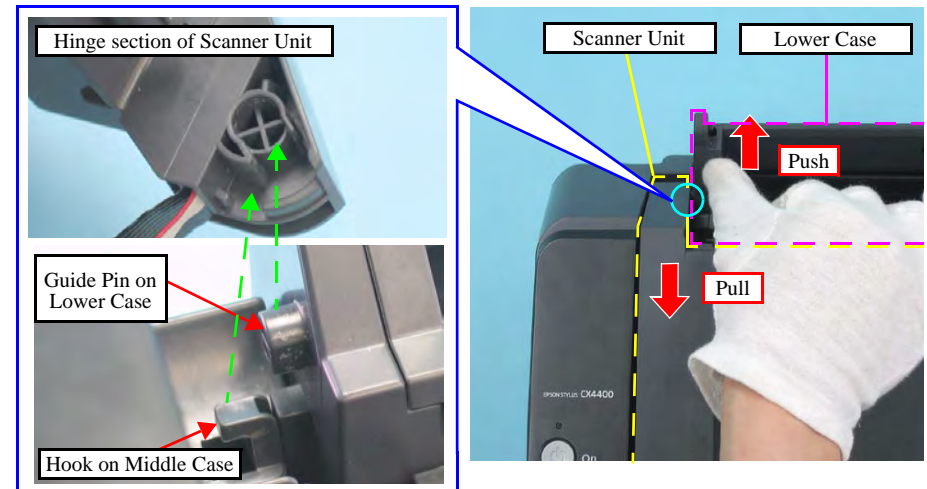
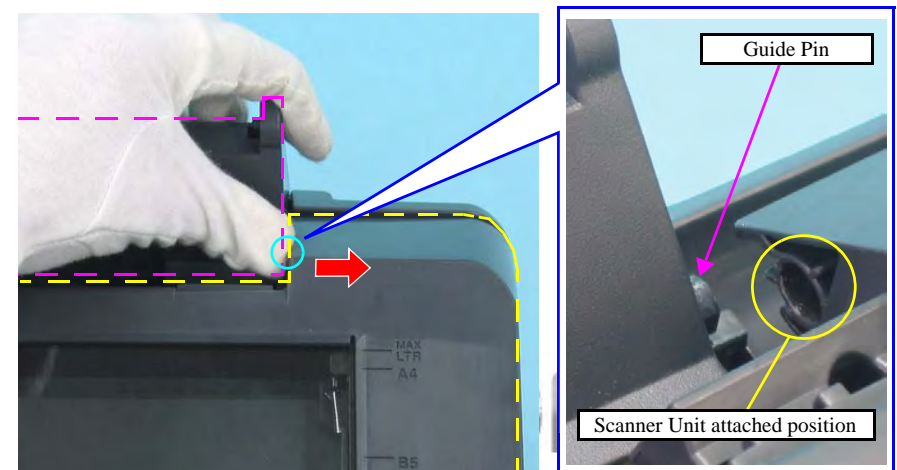

Figure 4-11. Removing Scanner Unit /Middle Case /Panel Unit (1)
Figure 4-12. Removing Scanner Unit /Middle Case /Panel Unit (2)
5. Engage the right hinge of the Scanner Unit to the Lower Case (refer to Figure 4-12), then engage the left hinge of the Scanner Unit to the Lower Case and the Middle Case. (refer to Figure 4-11)